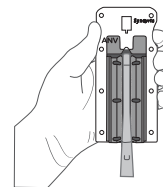

Figure 3
15. Close the stapler jaws until the stapler closing handle clicks (See Figure 3).